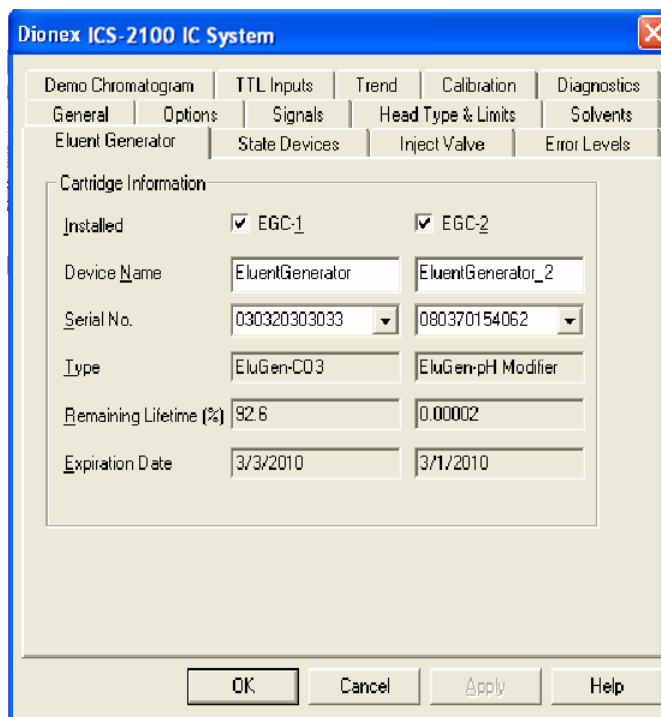

Figure 70. Eluent Generator Configuration Properties: CO₃ / EPM Example
3. Click the **Eluent Generator** tab (see Figure 70).